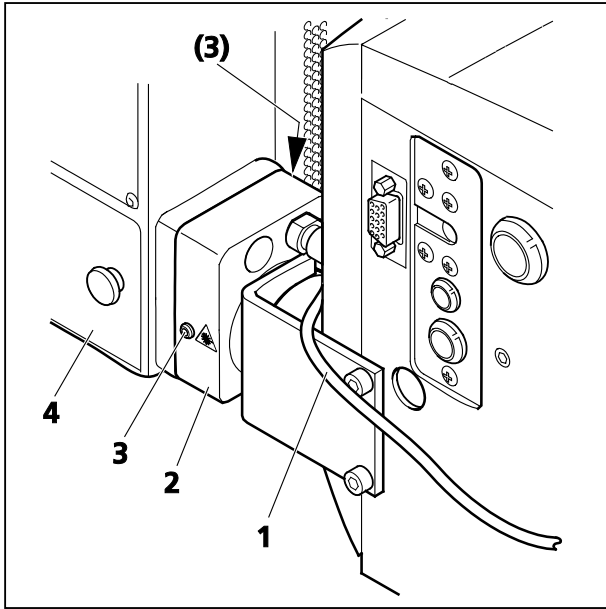

Fig. 22 Port connection between LSM 710 /
Do not remove the laser safety cable (Fig. 22/1) from the LSM 710 / LSM 780 system. This might result in failure of laser safety and a non operating system.
- Loosen the two fastening screws (Fig. 22/3) of the LSM *BiG* port (Fig. 22/2).
- Slowly pull the LSM *BiG* (Fig. 22/4) away from the port.